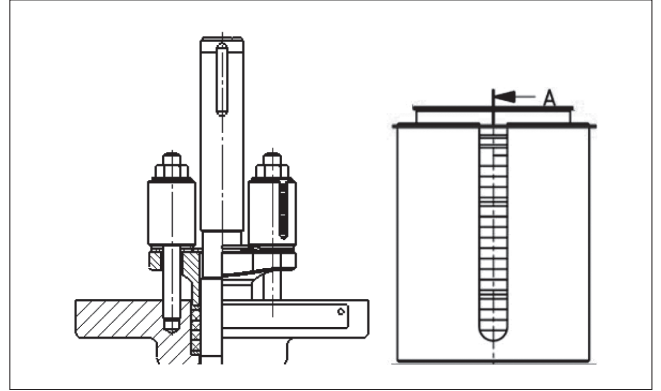

Fig. 14 High performance live-loading
- For the high performance live-loading option (Figure 14), pre compress the gland packing until the top cap reach the shell holder (housing) to ensure proper force in use.